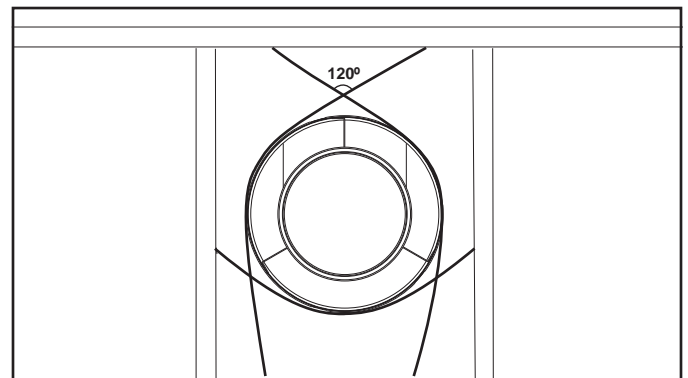
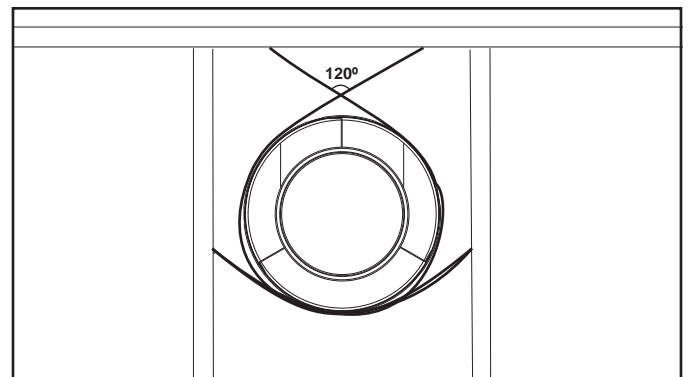

Figure 10.7 Securing Vertical Pipe Sections
Figure 10.8 Securing Horizontal Pipe Sections
- Vent supports or plumbers strap (spaced 120° apart) may be used to support vent sections. See Figure 10.7 and Figure 10.8.